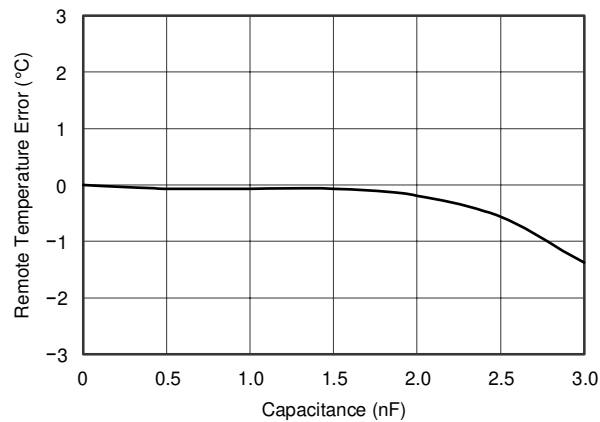
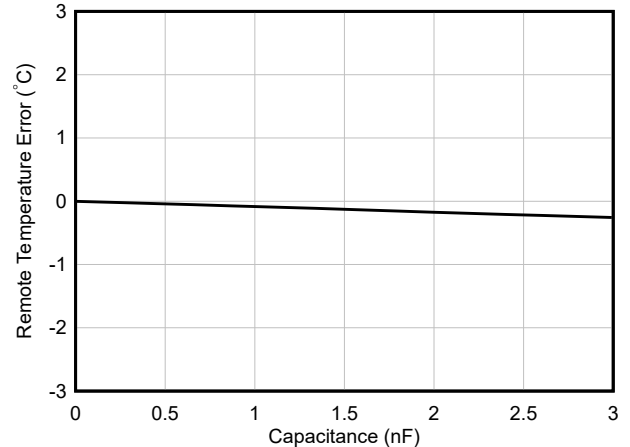
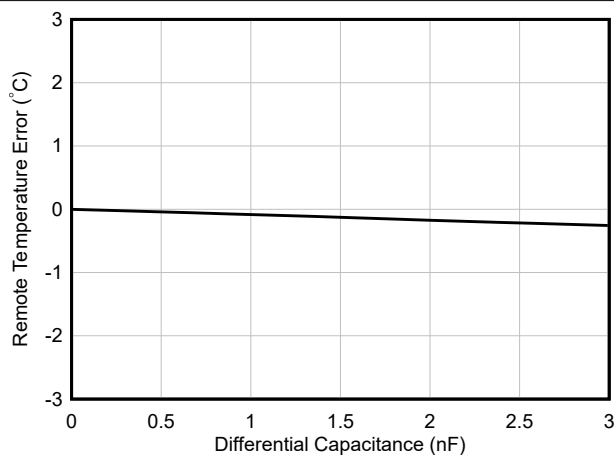

Figure 6-12. Remote Temperature Error vs Differential Capacitance (Legacy Chip)
Figure 6-13. Remote Temperature Error vs Differential Capacitance (New Chip)
Figure 6-28. Remote Temperature Error vs Differential Capacitance
- C_{DIFF} (optional) must be $< 1000\text{pF}$ in most applications. Selection of C_{DIFF} depends on the specific application; see Filtering, Figure 6-12 (Figure 6-13 for the new chip), and Figure 6-28.
The TMP411-Q1 and TMP411D-Q1 devices tolerate differential input capacitance of up to 1000pF with minimal change in temperature error. The effect of capacitance on the sensed remote temperature error is shown in Figure 6-12 (Figure 6-13 for new chip) and Figure 6-28.